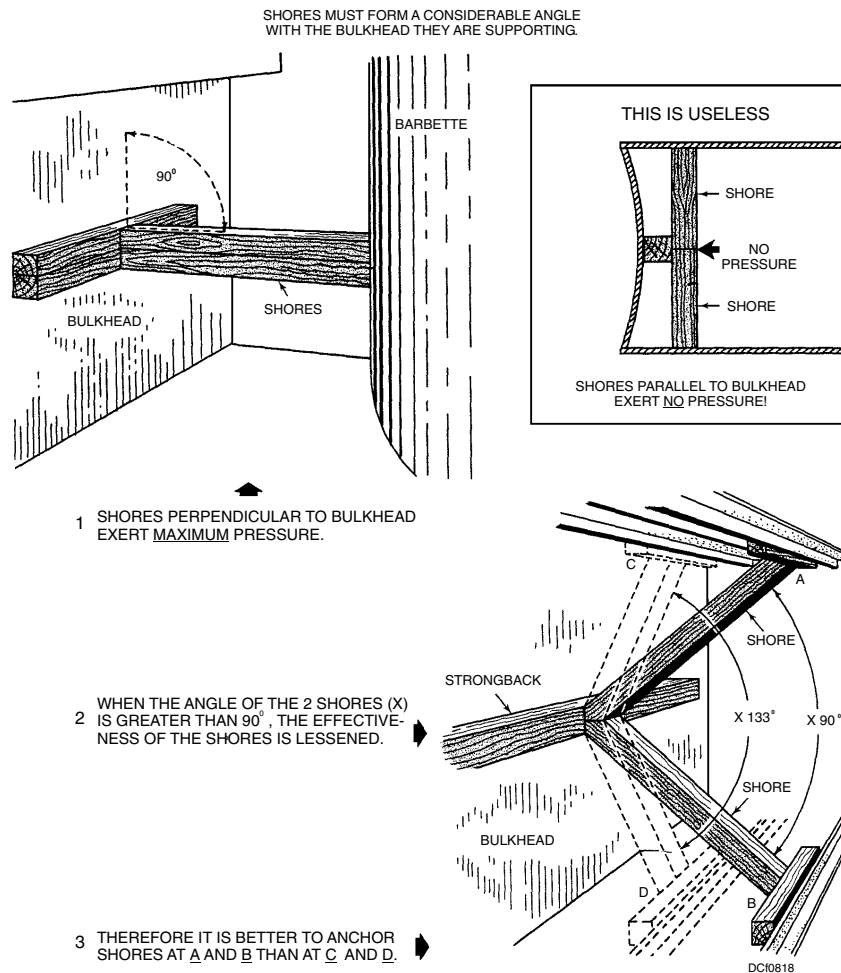

Figure 8-18. Shoring angles.
- Spread the pressure. Make full use of strength members by anchoring shores against beams, stringers, frames, stiffeners, stanchions, barbettes, and so forth. Place the legs of the shoring against the strongback at an angle of 45° or 90° if at all possible. Figure 8-17 shows the simplest and strongest shoring structure; figure 8-18 shows shoring angles.